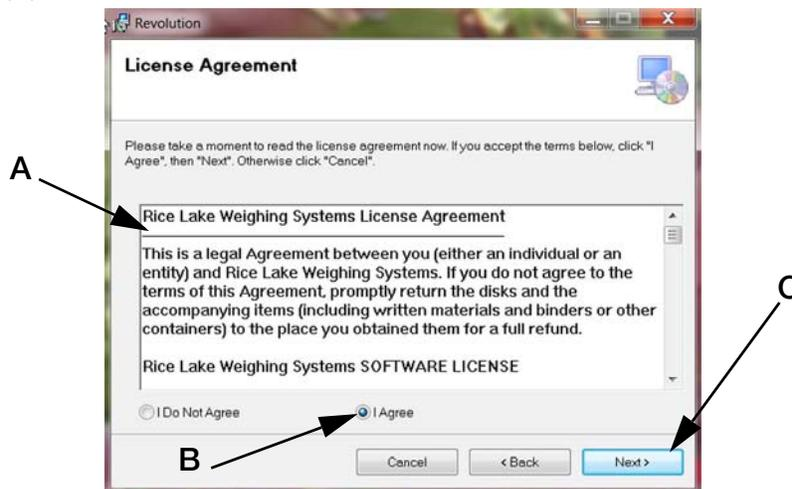

Figure 4-5. License Agreement Screen
4. Then at the *License Agreement* (Figure 4-5) screen, read the agreement (A), select **Agree** (B) and click **Next** (C).